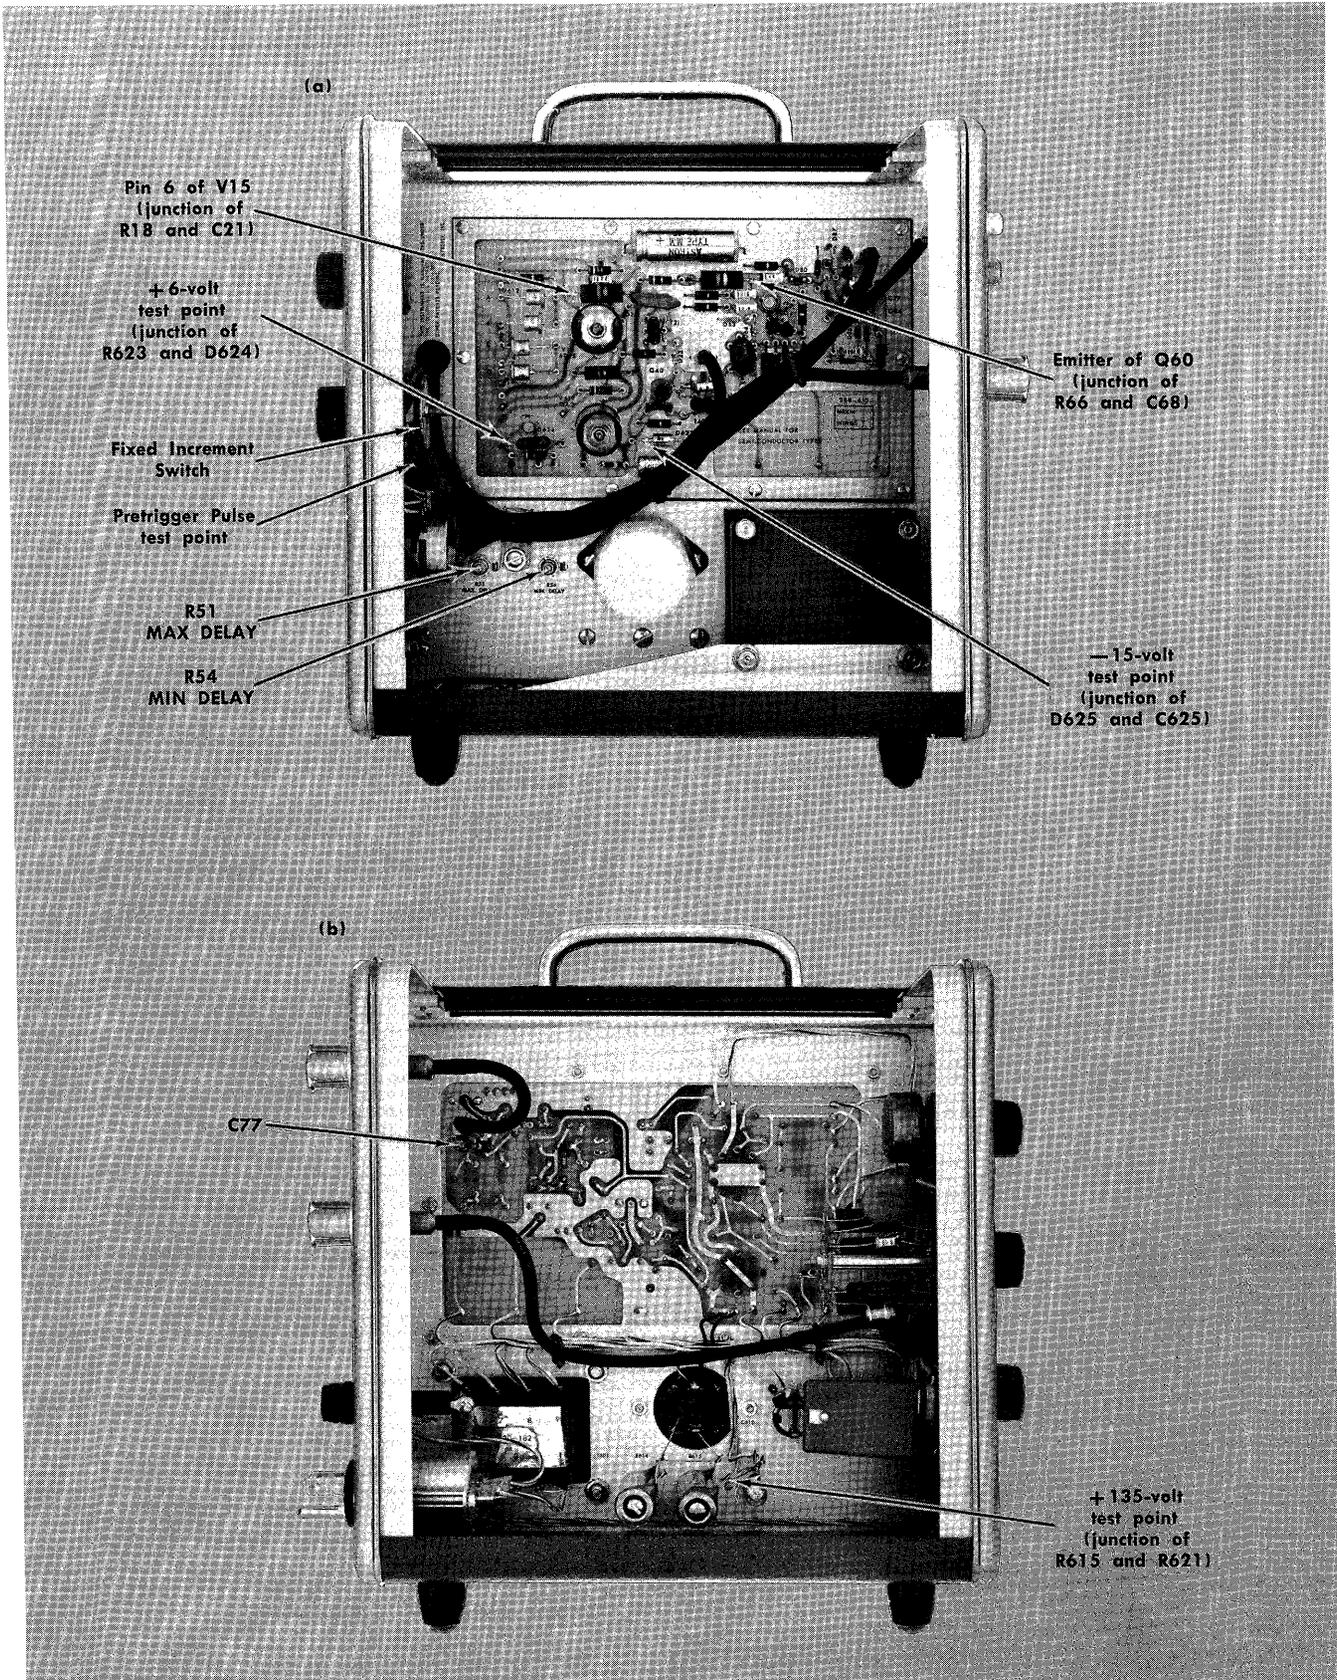

Fig. 5-2. Test Points and adjustments in the Type 111: (a) right side; (b) left side.
Refer to Table 5-1 for output voltage and ripple tolerances during the following checks. Test points are shown in Fig. 5-2.
d. Connect the 10X test probe tip to pin 6 of V15 (see Fig. 5-2).
b. Connect the probe tip of the conventional test oscilloscope to the emitter of Q60 (see Fig. 5-2).